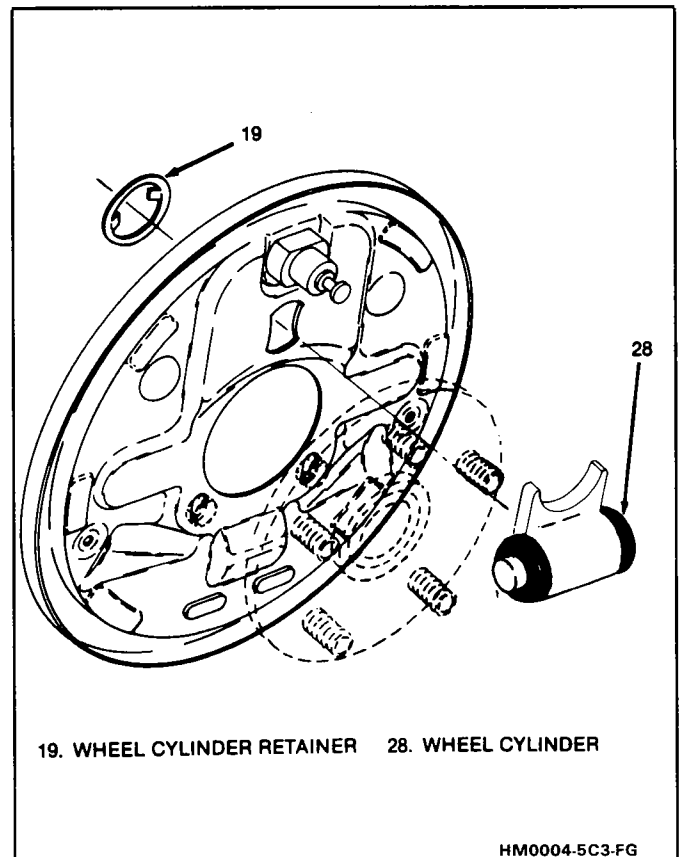

Figure 6 Wheel Cylinder
See Figures 6 thru 9
1. Position wheel cylinder assembly (28) and hold in place with wooden block between cylinder and axle flange.
2. New retainer (19) over wheel cylinder abutment using a 1-1/8 inch 12-point socket (32) and socket extension (31) as shown in figure 6.